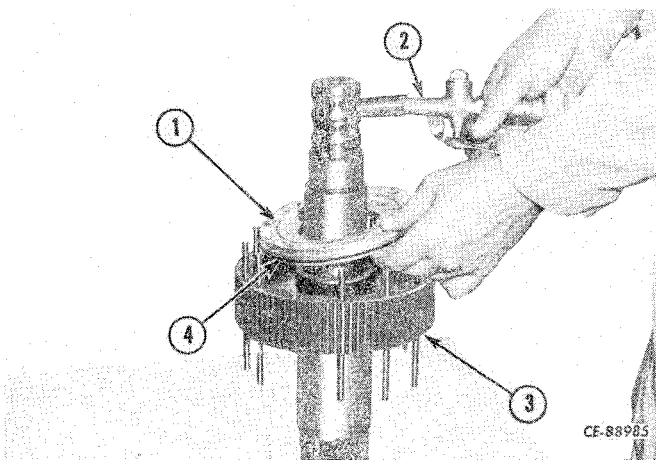

Figure 4-120
Insert a rubber-tipped air nozzle (2, Fig. 4-120) in the oil supply passages and apply a light charge of air pressure to remove the pistons (1) from the cylinder (3). Remove the "O" rings (4) from the outer and inner grooves of the pistons.